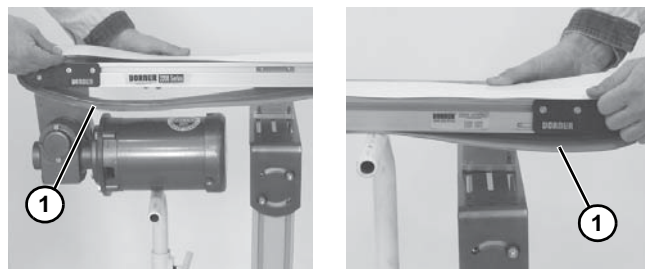

Figure 27
5. Remove belt (Figure 27, item 1) from conveyor.